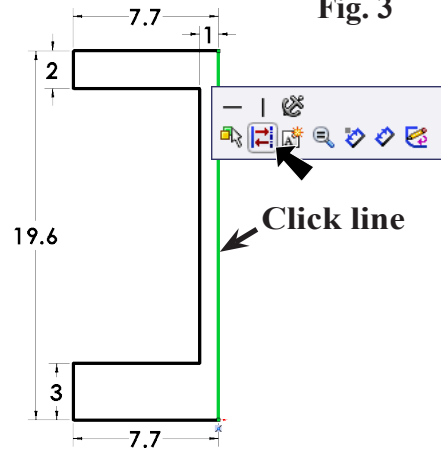

Fig. 4
- Step 8. Click **right vertical line** and click **Construction Geometry**  on the Content menu, **Fig. 4**.